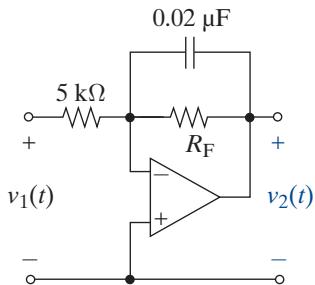

FIGURE P11–21
- 11–22  Select an appropriate R_F for the circuit of Figure P11–21 so that the step response of the circuit is $g(t) = (10e^{-1000t} - 10) u(t) \text{ V}$.